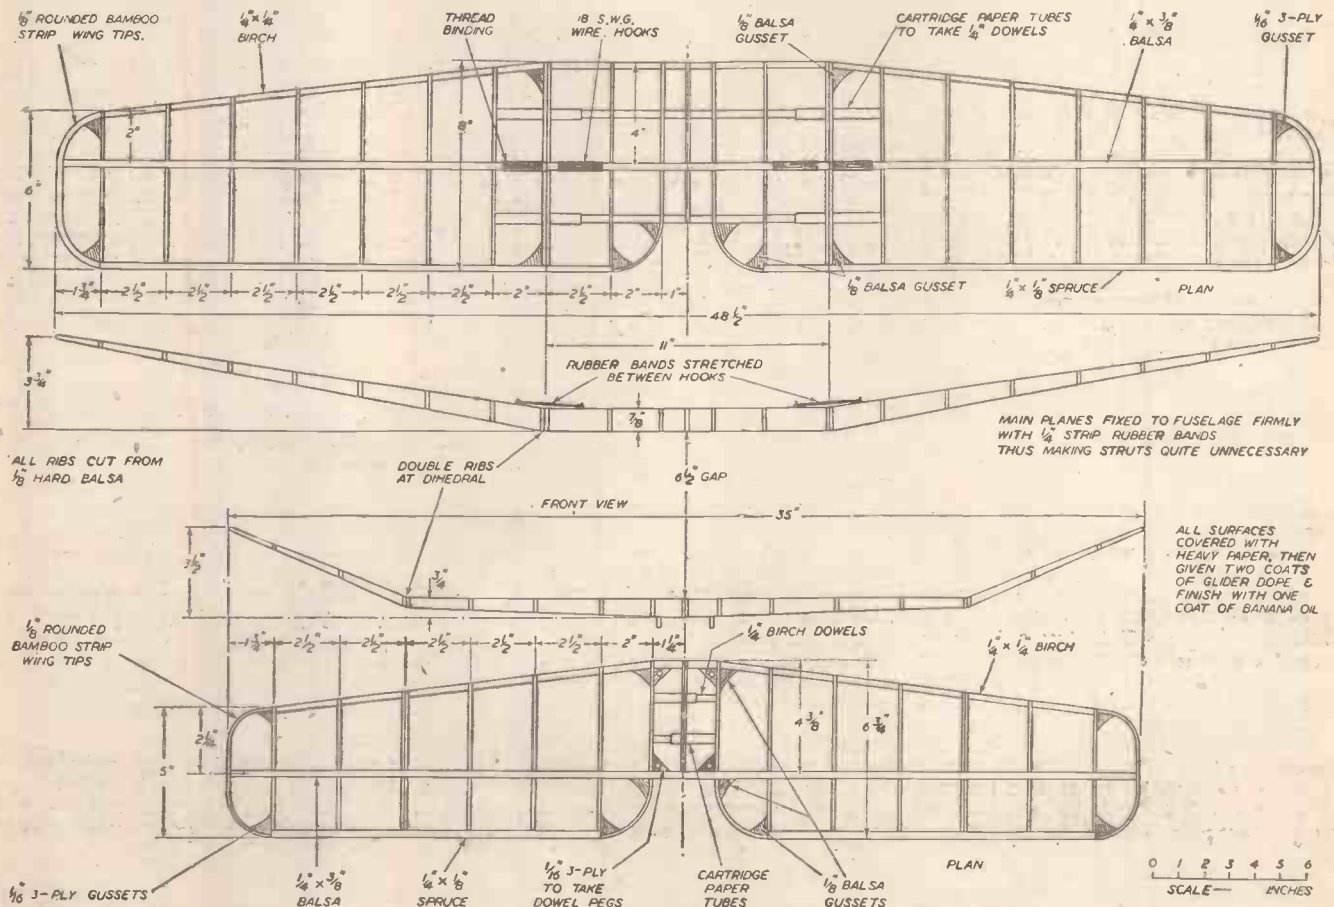

Fig. 4.—Details of upper and lower main planes.
The upper mainplane is built up on the plan of same (Fig. 4) and is in three pieces: a centre section, port, and starboard wings. The correct dihedral angle is shown in the front view and the wing section used is seen in the detail drawing (Fig. 3).
Fig. 4.—The Championship Cup for the best model sailing ship was awarded to Mr. A. E. Field for this representative model of an early sixteenth century Spanish carvack.
A. E. Field, of Walsall, for his representative model of an early 16th century Spanish carrack (Fig. 4). As well as taking pains with his modelmaking, Mr. Field went to great trouble to make his model as accurate as possible. He based it on a model of Columbus's *Santa Maria*—built in 1892 under the supervision of the director of the Naval Museum, Madrid, a copy of which is in our own Science Museum in London. Various alterations were made, based on later information, to make the model more nearly representative of the carracks of that century.